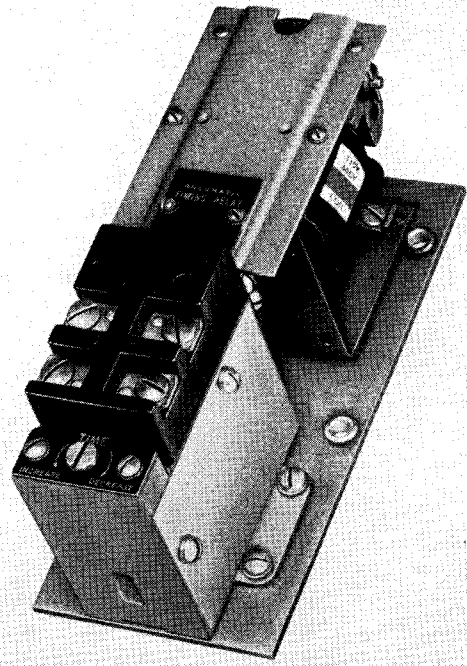

FIG. 7. Complete Solenoid Operated Time Delay (110 Volt Coil) S# 1590 746
- Complete Solenoid Operated Time Delay Relay (110 Volt Coil) . . . S# 1590 746 (Fig. 7)